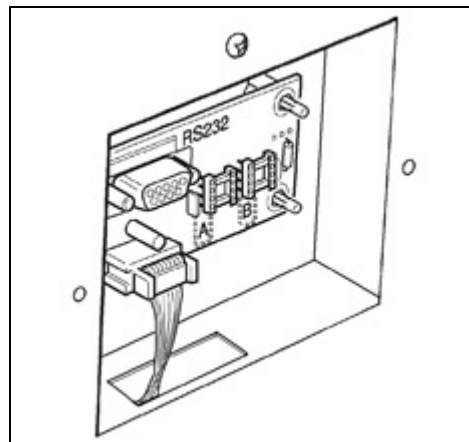

Fig. 3
2.4 CONECTOR TIPO DB9 (RS 232) (Fig. 3)